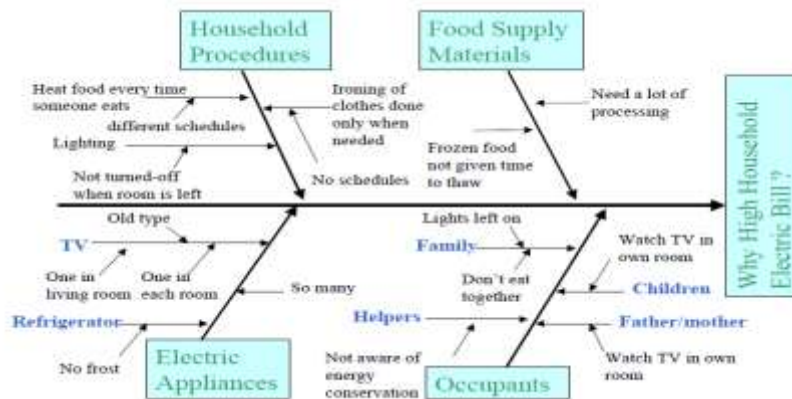

Figure 4: Cause and Effect Diagram
Step 2: Identify all of the main categories of causes of the problem, for example, man, method, materials, machine, and environment. In below figure 4, these factors were grouped as appliances, occupants, household procedures, and household food supplies. Use branch arrows to connect the categories to the main arrow.